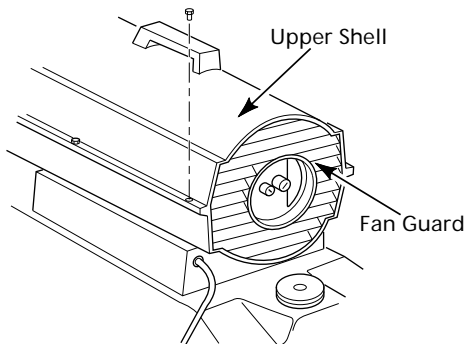

Figure 7 - Upper Shell Removal, Models 2E510E and 2E511E
1. Remove screws along each side of heater using 5/16" nut-driver. These screws attach upper and lower shells together (See Figures 7 and 8).
1. Remove upper shell (See Figures 7 and 8).